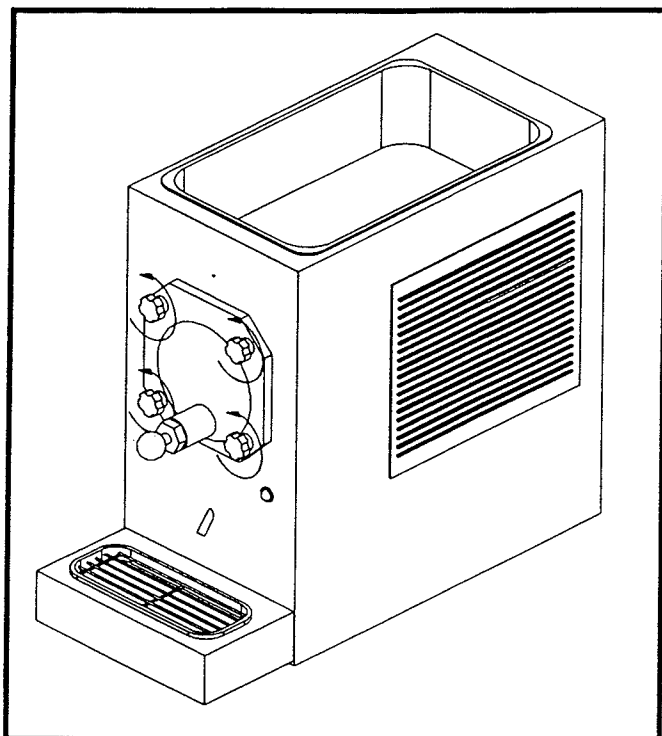

Figure 9
A.Remove the front door by turning off the knobs, and then pull the front door off the studs (Fig. 9).